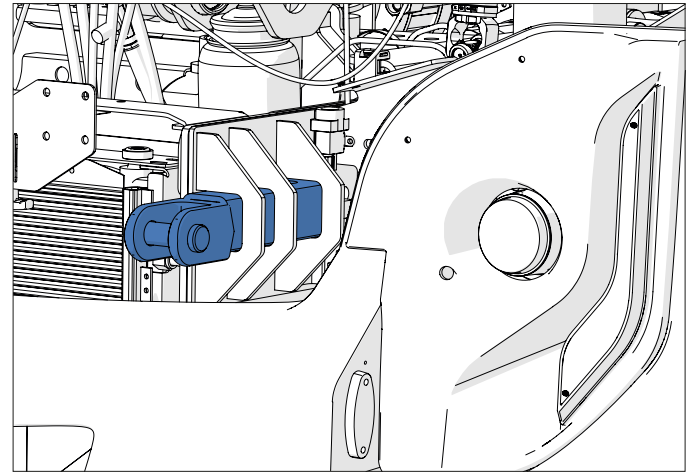

Figure 10 - Tow hooks inserted on the front crossmember
4. Insert the two hooks on the front cross member as illustrated in **(Figure 10)**.